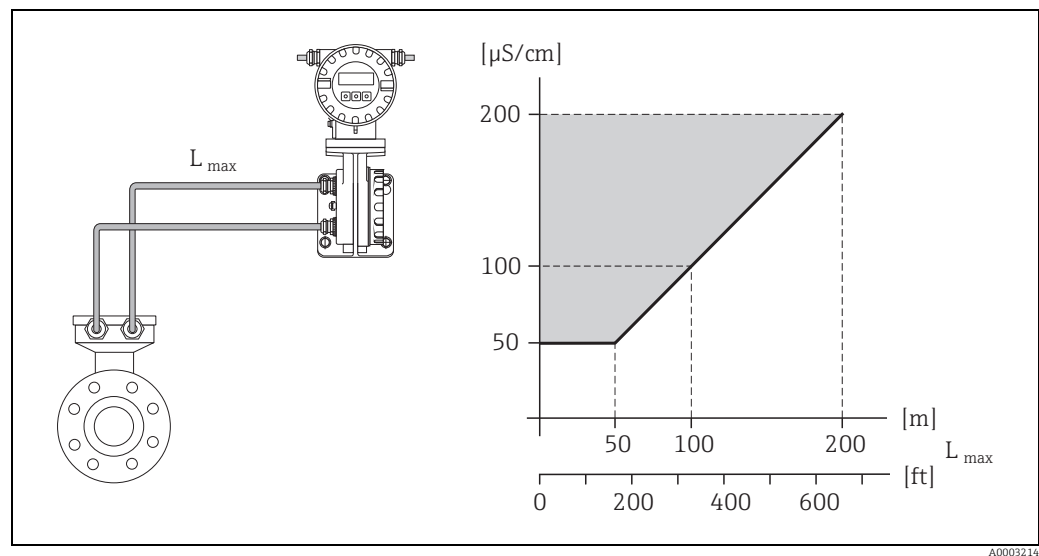

Fig. 18: Permissible cable length for the remote version
- The permitted connecting cable length $L_{\max}$ is determined by the fluid conductivity ($\rightarrow$ Fig. 18). A minimum conductivity of $50 \mu\text{S}/\text{cm}$ is needed for all fluids.